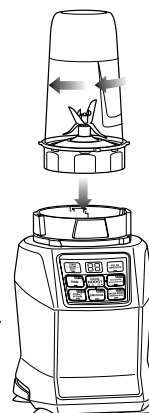

Fig. 2
- 5 Turn the Nutri Ninja Cup upside down and place it onto the motor base, aligning the tabs on the cup with the motor base. Rotate the Nutri Ninja Cup clockwise until it locks in place. You will hear a click when the lock is engaged. (Fig. 2)